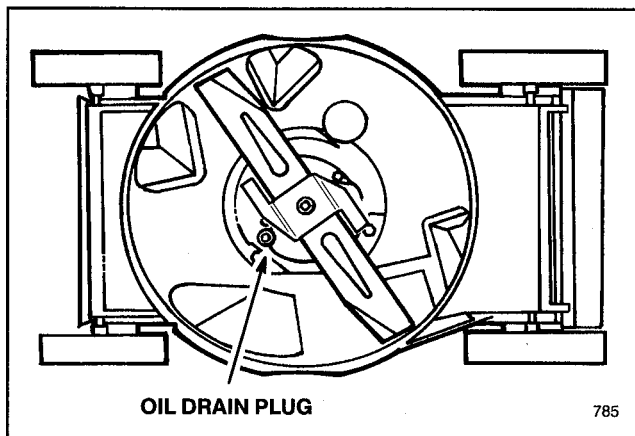

Figure 13
3. Tip mower on its right side (Fig. 13). Place a drain pan under mower.
4. Remove drain plug (Fig. 13) from underside of mower using a  $\frac{3}{8}$ " square drive.